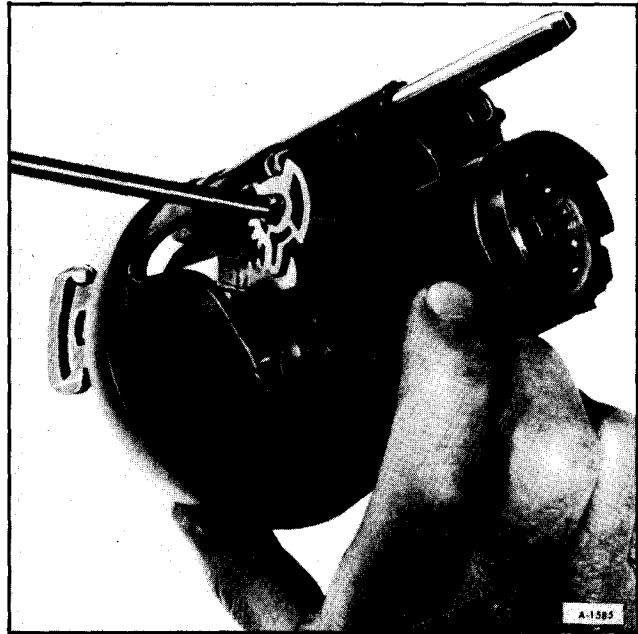

Figure 91—Removing Drive Shaft
30. If there is a snap ring, remove it from sector drive shaft. With small punch lightly tap drive shaft from sector (figure 91). Remove drive shaft. Remove rack and rack spring (also shim, if there is one). Remove sector and bolt.